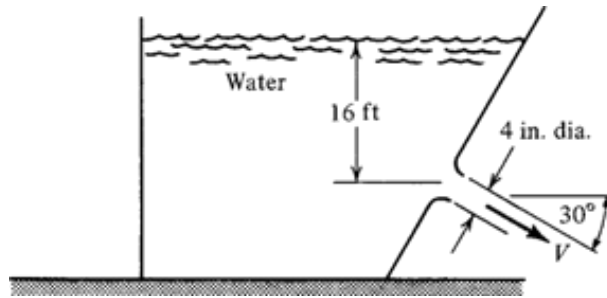

Figure P3.19
- 3.19** (a) Neglect all losses and compute the exit velocity from the tank shown in Figure P3.19.